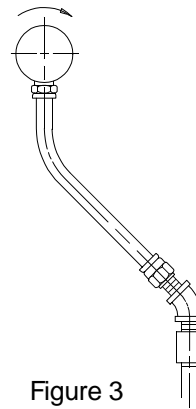

Figure 3
- 2.2.4 A union type connection to the supply line completes the installation. See Figure 3. All supply piping must be self supporting.